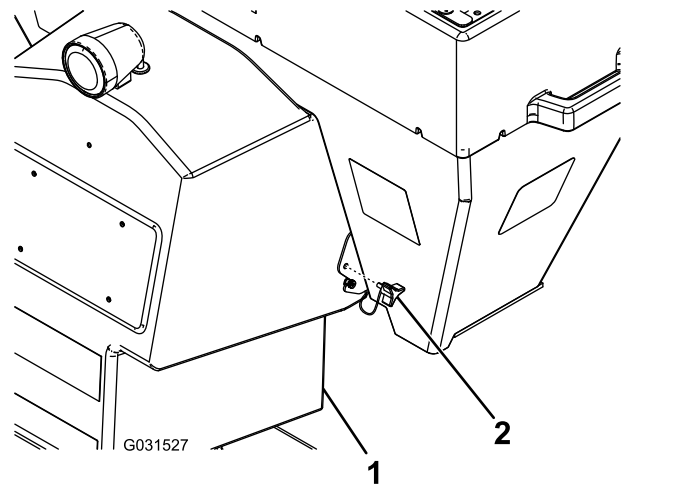

Figure 18
2. Remove the 2 thumbscrews securing the spinner assembly to the hopper (Figure 18).
3. Remove the thumbscrews from the spinner assembly (Figure 18).
4. Remove the spinner assembly from the hopper (Figure 18).